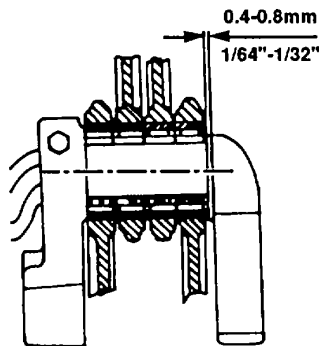

Figure 5-1. Connecting Rod Axial Play
- b. Axial play of the connecting rods on the crankshaft (figure 5-1). Bring all connecting rods to one side. Then determine the axial play by means of a feeler gauge 0.016-inch min. to 0.032-inch max. (minimum 0.4 mm, maximum 0.8 mm).